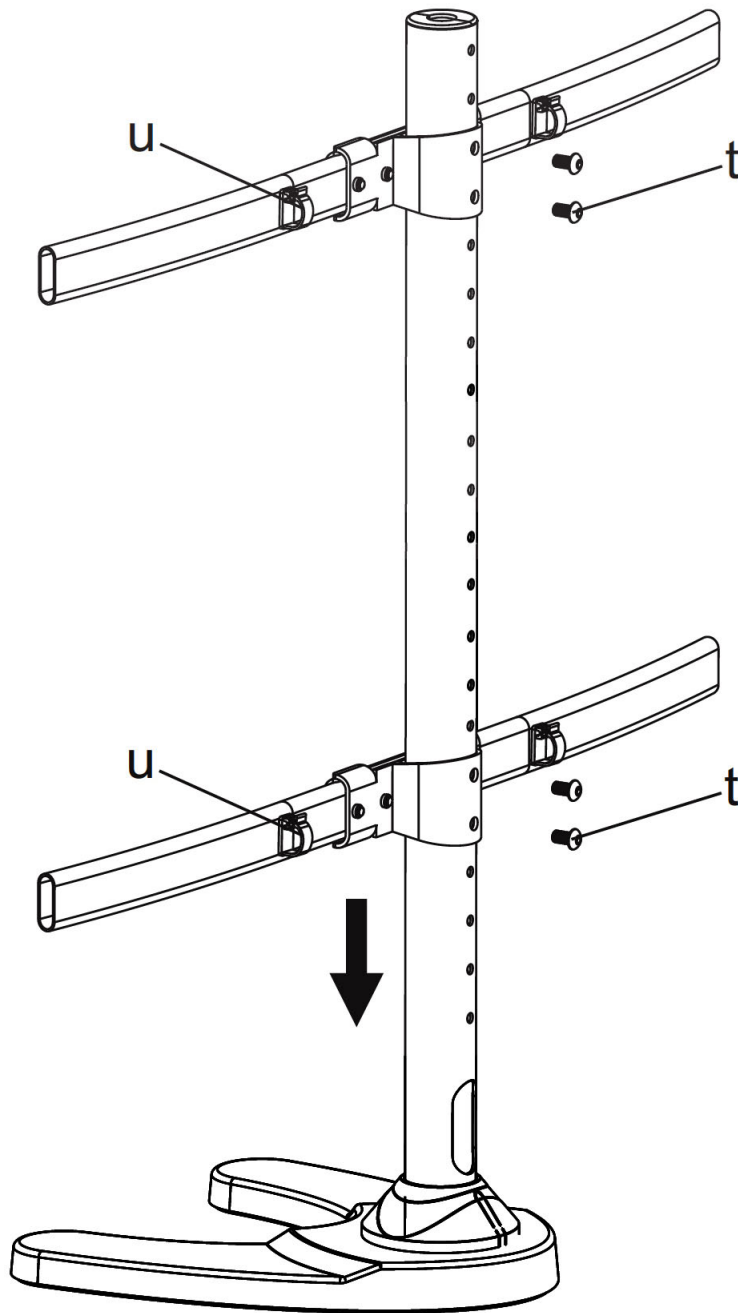

Figure 2b
2. Mount the Arm Assemblies to the tube support, fasten using **M8x10 Bolts (t)** with **Allen Key (o)** and insert the **Wire Clips (u)** as shown in **Figure 2b**. Then continue to **Step 3**.